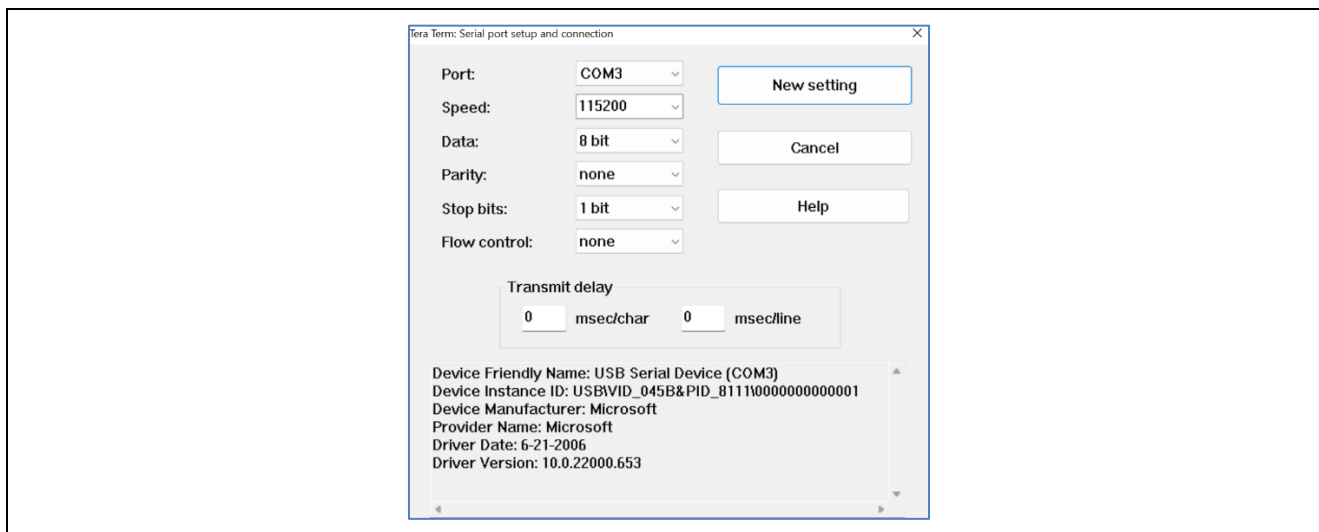

Figure 8. Selecting 115200 on the Speed Pulldown
3. Using the **Setup** menu pull-down, select **Serial port...** and ensure that the speed is set to **115200**, as shown in Figure 8. Click **New setting**.